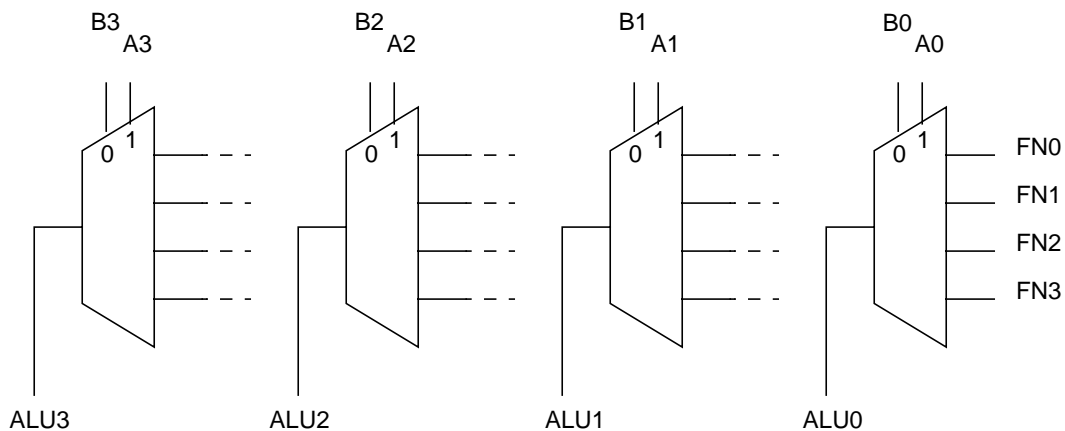
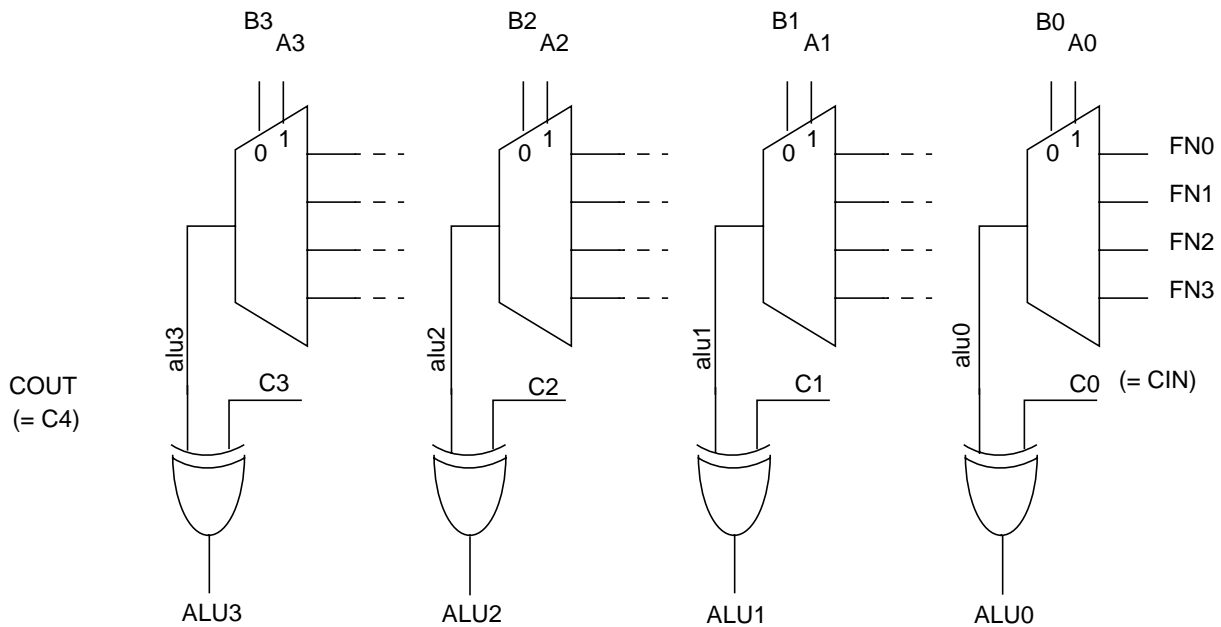

Figure 2
Figure 3
command, any of the 16 possible logic functions of two variables. This clever implementation requires a 4-input multiplexer, which you have already programmed in Laboratory 5. To construct a 4-bit logic unit we may assemble 4 identical 4-input muxes (one for each pair of input bits) and feed them a common logic-function specifier (FN) to insure that each bit position is computing the same logical function of its inputs. Figure 2 shows the circuit.
Can we modify Fig. 2 to include the capability of addition? For each bit position  $SUM = A \oplus B \oplus CIN$ . We could at least use the logic unit's capabilities to generate  $A \oplus B$  by setting the function FN to 0110 (representing the exclusive-or function). But we still must XOR that intermediate result with carry-in. Figure 3 shows an efficient structure: